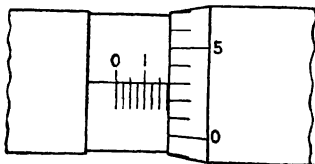
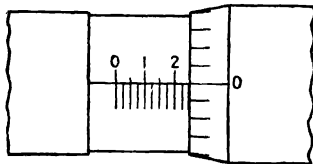
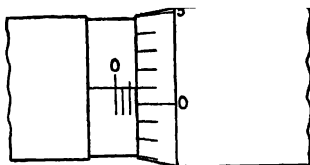

Fig. 3-25.
Fig. 3-26.
Fig. 3-27.
1. What is the reading in Fig. 3-25? Fig. 3-26? Fig. 3-27?